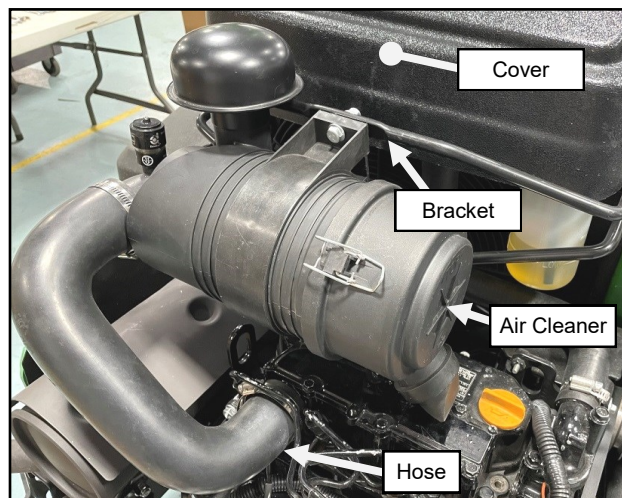

Fig. 1.8 (Remove Hose and Air Cleaner)
- 1.8 Loosen the (2) hose clamps found on the hose connecting the engine to the air cleaner. Next, remove the air cleaner and (2) mounting screws/nuts from the mounting bracket. Set aside hose, air cleaner and hardware for later re-installation. See Figure 1.8.